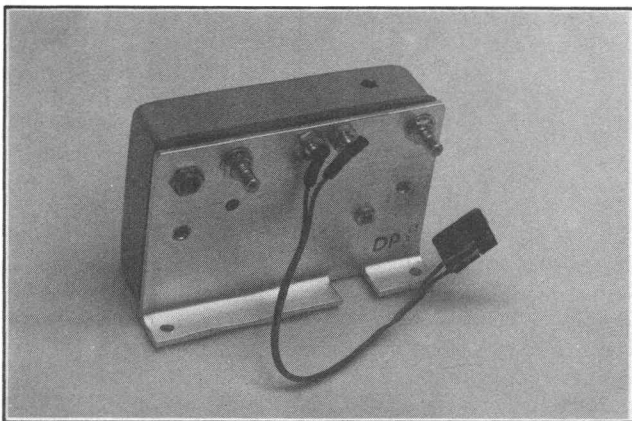

Fig. 4-11. Location of the 110 MHz IF return loss adjustments and IF Gain adjustment.
5. Adjust C2047 and C325 (Fig. 4-11) simultaneously for minimum signal amplitude on the spectrum analyzer display. Minimum amplitude must be at least 35 dB down from the full screen reference of -20 dBm.